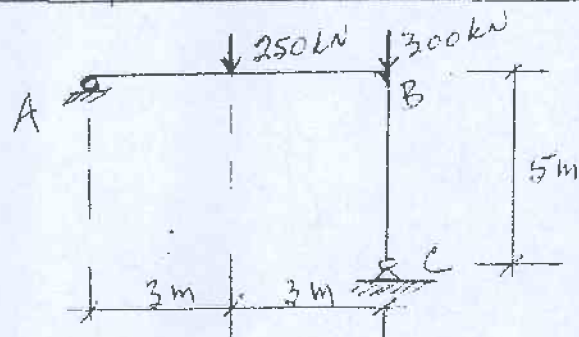

FIGURE B3
- B3. For the determinate reinforced concrete frame, shown loaded in Figure B3, design a square cross-section and the corresponding reinforcing for the column BC. Assume the column is short, pinned at C and monolithic at B.